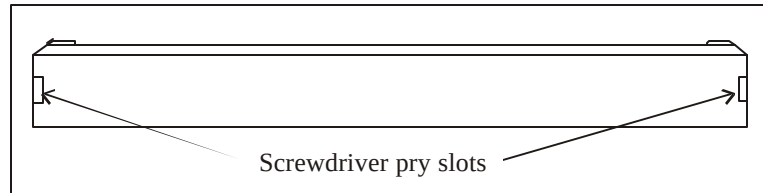

Figure 5-5
2. Remove the front cover plate below the door. There are small flatblade screwdriver tabs on each end of the plate to help remove it. See Figure 5-5.